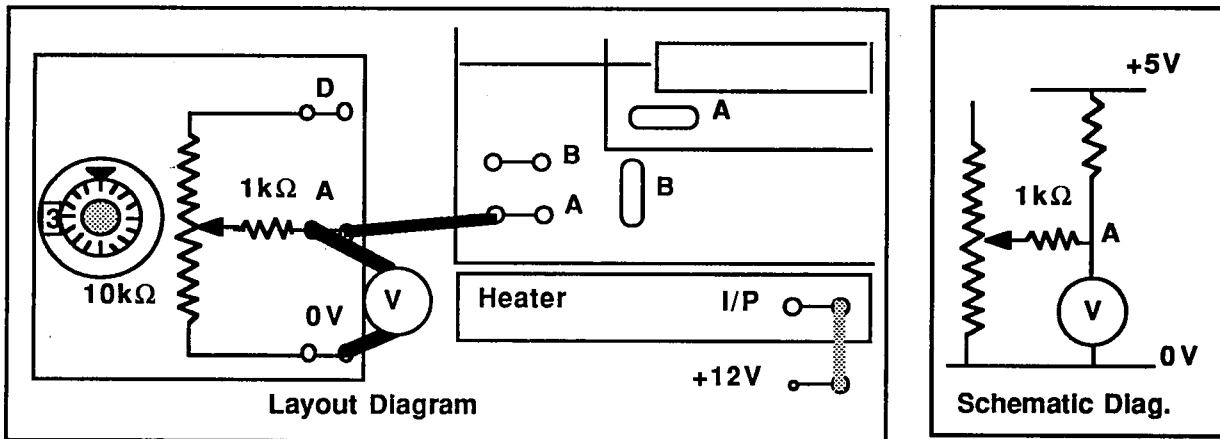

Figure 32
- Connect the circuit as shown in Fig 32, set the switch on the Wheatstone bridge circuit to OUT to disconnect the $12k\Omega$ and R_x resistors from the circuit and set the resistor dial reading to 500 approximately.